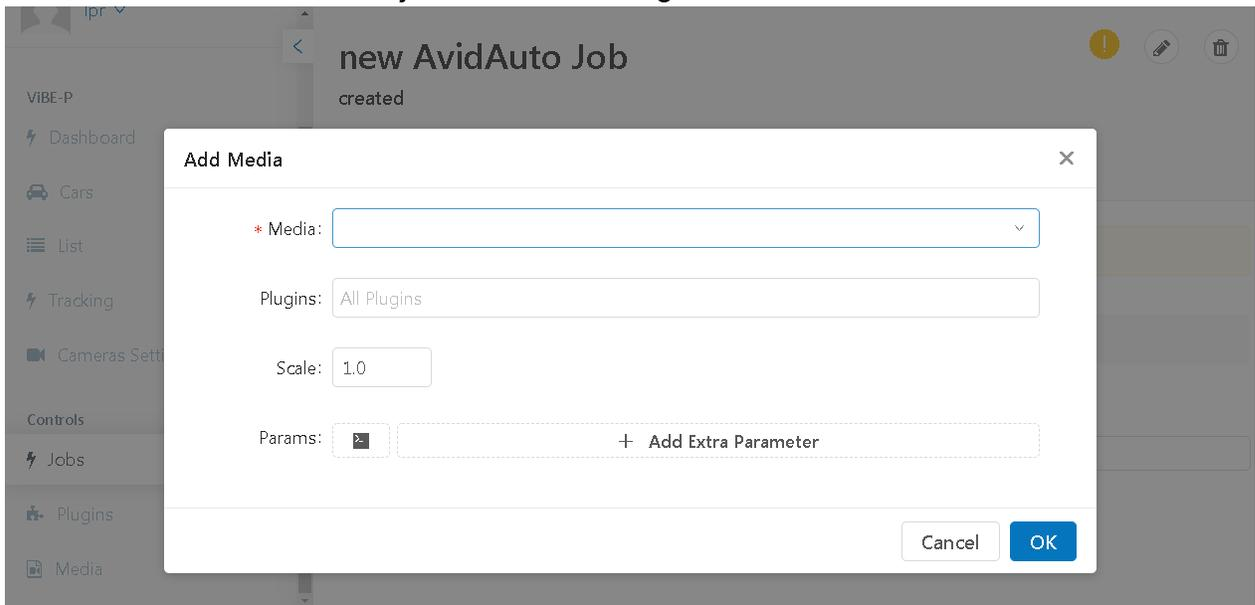

Figure 24 Add Media to Created Job
4. **Add media** to a created job as shown in Figure 24